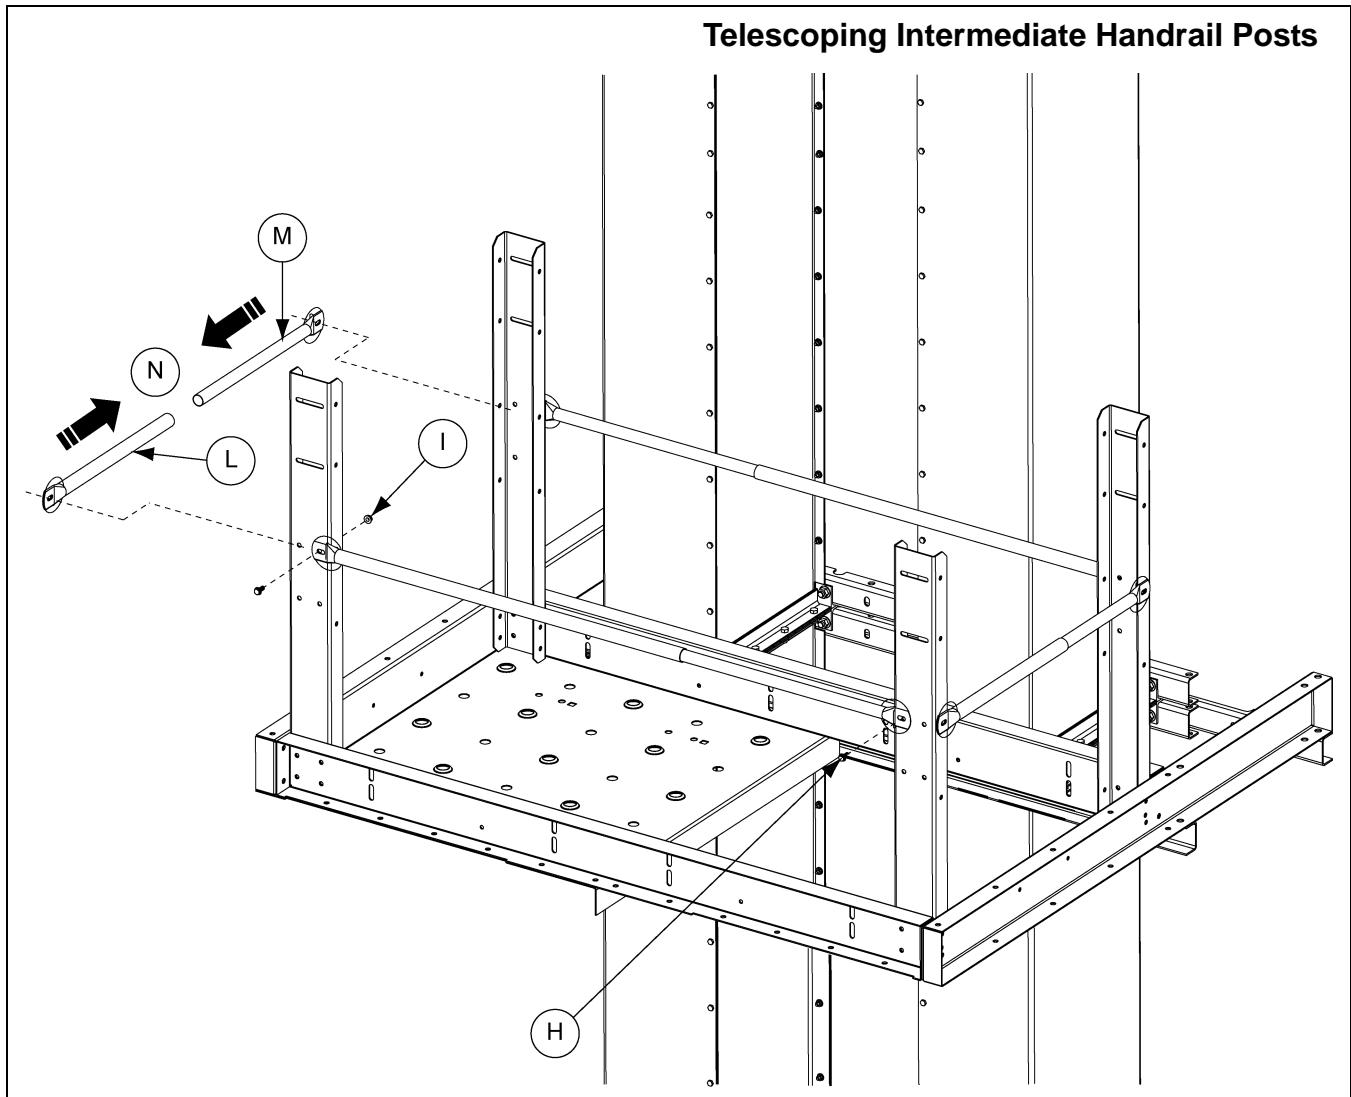

Figure 7K
6. After cutting the two (2) large and two (2) small intermediate handrails, slide them to the correct length and install them to the handrail posts on the short sides of the platform using 5/16" x 3/4" flanged hex bolts. (See Figure 7K.)